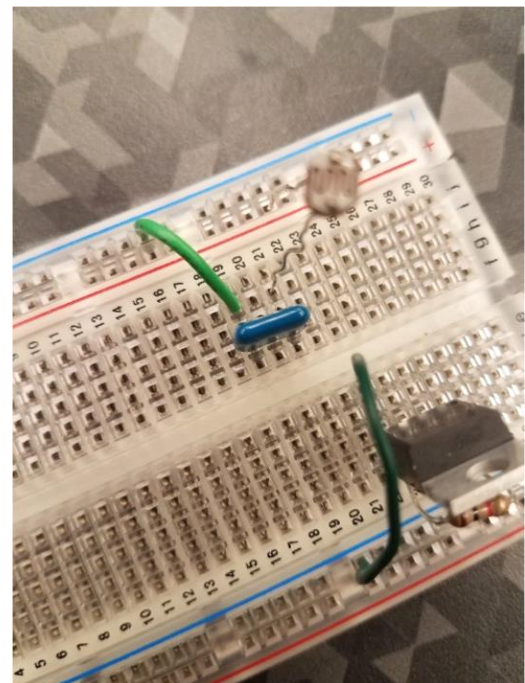

Figure 4: Photoresistor Setup
2. Connect the capacitor and photoresistor as shown in the schematic in Figure 1, and pictorially in Figure 4. The photoresistor is a light sensor that we will use to adjust the brightness of the light based upon how bright the room is.